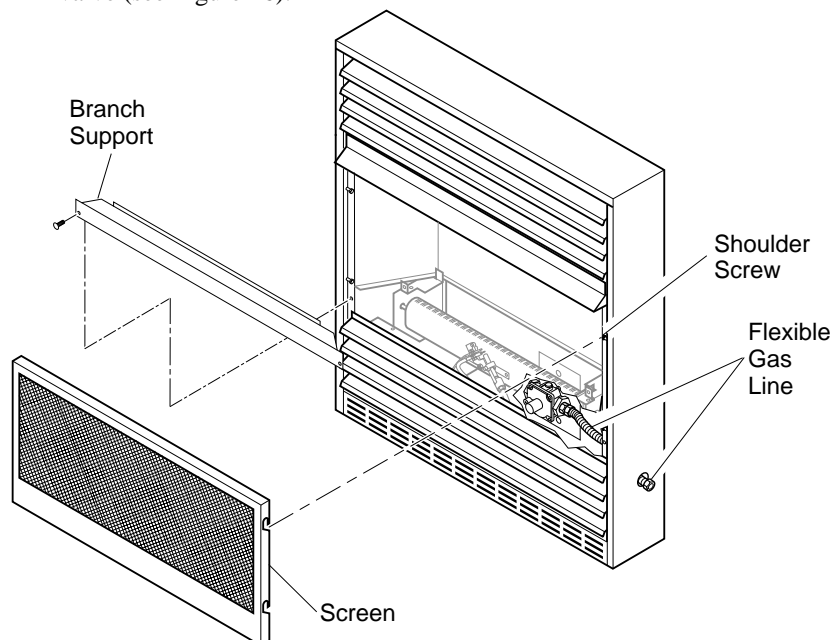

Figure 25 - Removing Branch Support From Fireplace
2. Remove screws that attach branch support to fireplace (see Figure 25). Carefully lift up branch support and remove from fireplace (see Figure 25).